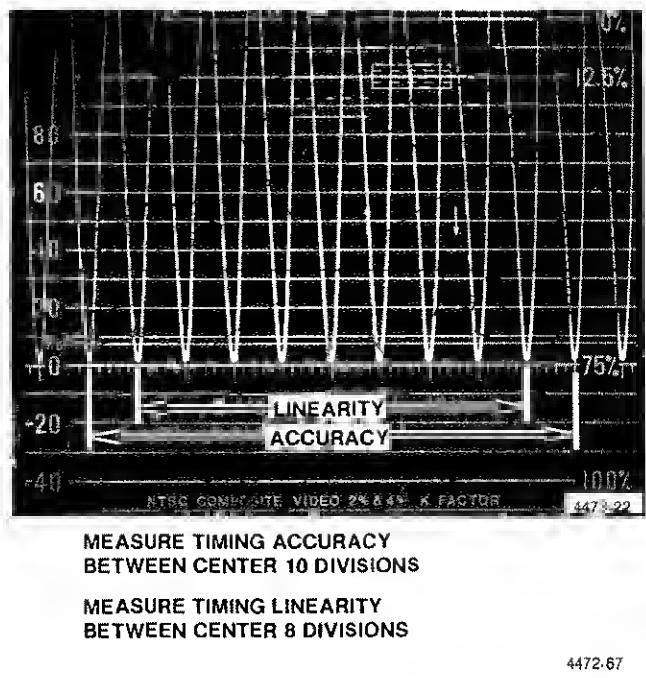

Fig. 5-2. Using triggered sine waves to make timing measurements.
b. Excluding the first and last divisions of the unmagnified display, position several portions of the 2H MAG SWEEP to the display and check the timing of the display. See Fig. 5-2.